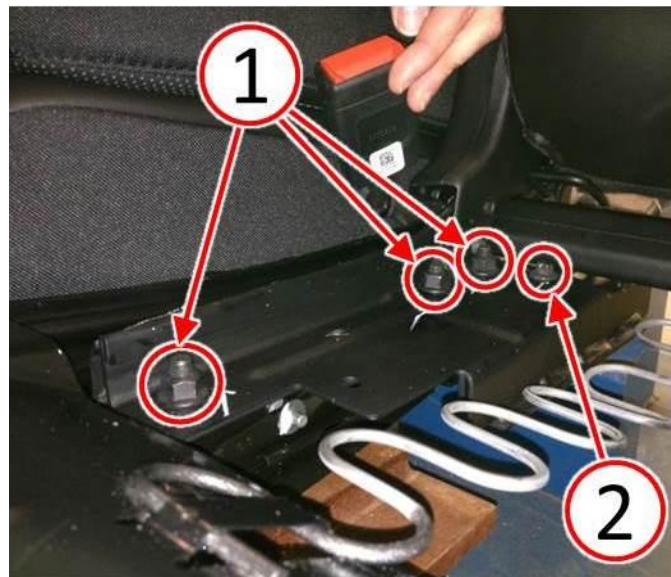

Fig. 10 Tighten Seat Rail Fasteners
22. Tighten the three M10 nuts (1) to 50 N-m (37 ft. lbs.) and the one M8 bolt (2) to 25 N-m (18 ft. lbs.) (Fig. 10).